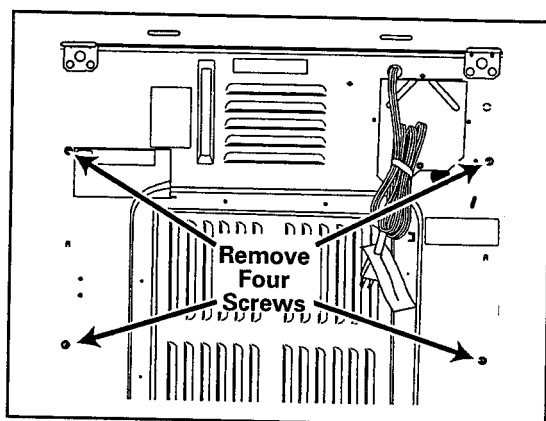

Figure 6-11
7. From back of dryer, remove four screws holding tumbler back assembly and remove assembly. (See Figure 6-11)